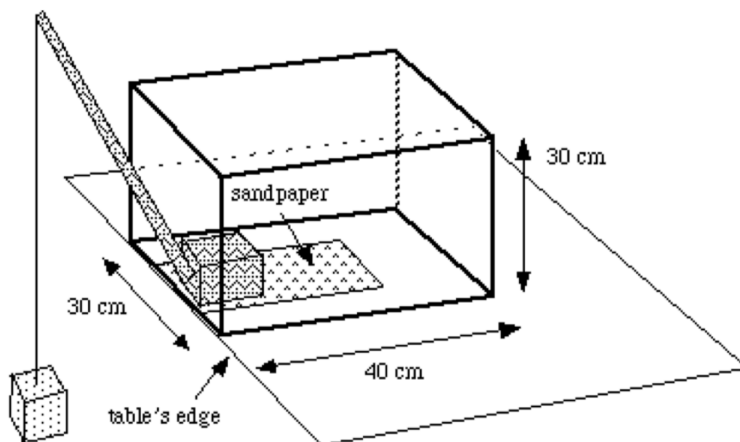

Figure 1: Diagram of the table illustrating the bounding box and a simple derrick.
- The part of the derrick located directly above the table must be able to fit within a box positioned as in Figure 1. This box extends 30 cm above the table's horizontal surface and 40 cm back from the table's edge. It is 30 cm wide. The part of the derrick extending beyond the table's edge can be any height and width.
5. The derrick must remain stationary, within the bounds (Figure 1), without collapsing, for the trial period of one minute. During the period no external intervention is allowed to adjust, steady, or support the derrick. A collapse of the derrick or intervention before the trial period has elapsed will result in a disqualification.